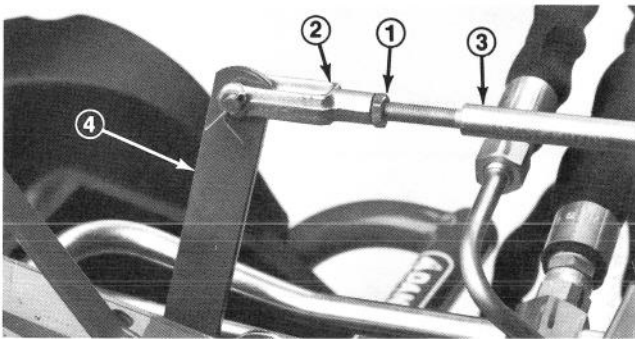

Figure 49
2. Loosen jam nut securing yoke on front of long control rod, remove cotter pin and clevis pin. (Fig. 49).